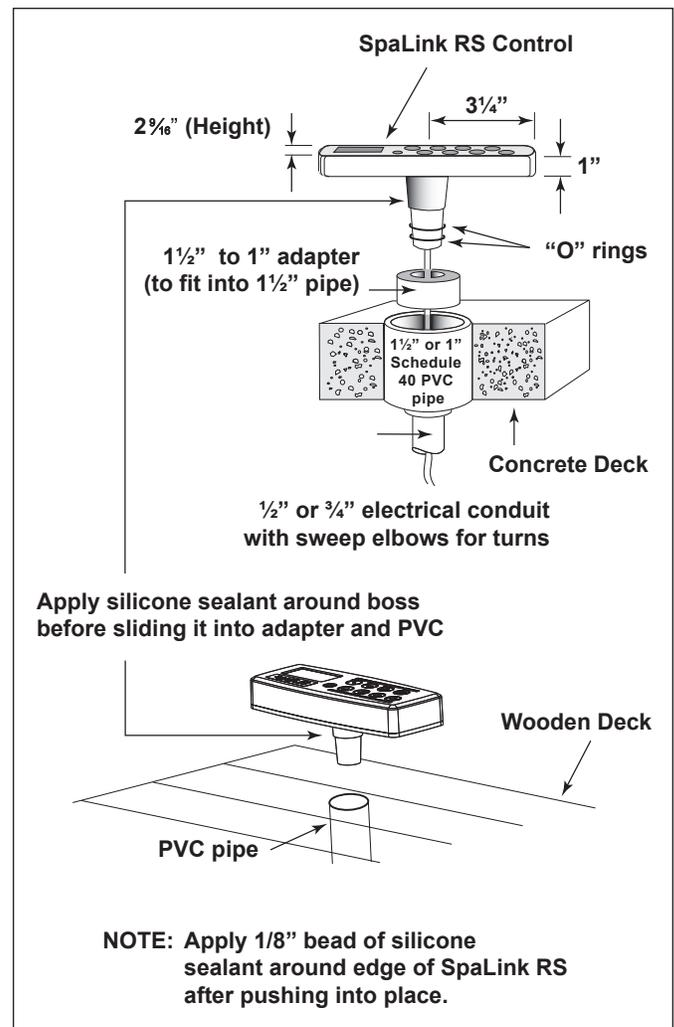

Figure 2. Installation on a Horizontal Concrete Deck
- To house the SpaLink RS, plumb a 6" long piece of 1 1/2" or 1" Schedule 40 PVC pipe as shown in Figure 2. A 1 1/2" to 1" adapter is included for use if 1 1/2" PVC is being used. Carefully trim the end of the pipe flush with the deck after all the deck work is completed. Leave at least 2" of clearance around the conduit from coping stones or other raised objects.